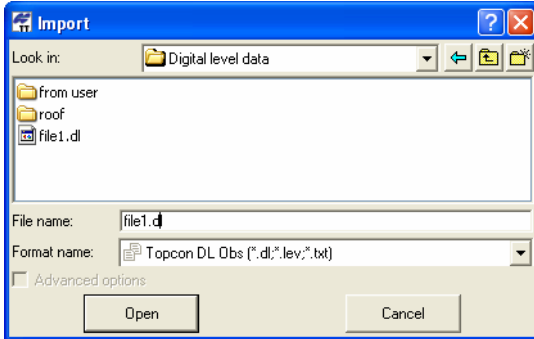

Figure 3-13. Import DL Obs File
- Click **Open** to import the file (Figure 3-13 on page 3-14).